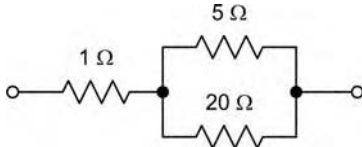

Figure 5.213
41. Which one of the following gives the effective resistance of the circuit shown Figure 5.213? [B1, B2]